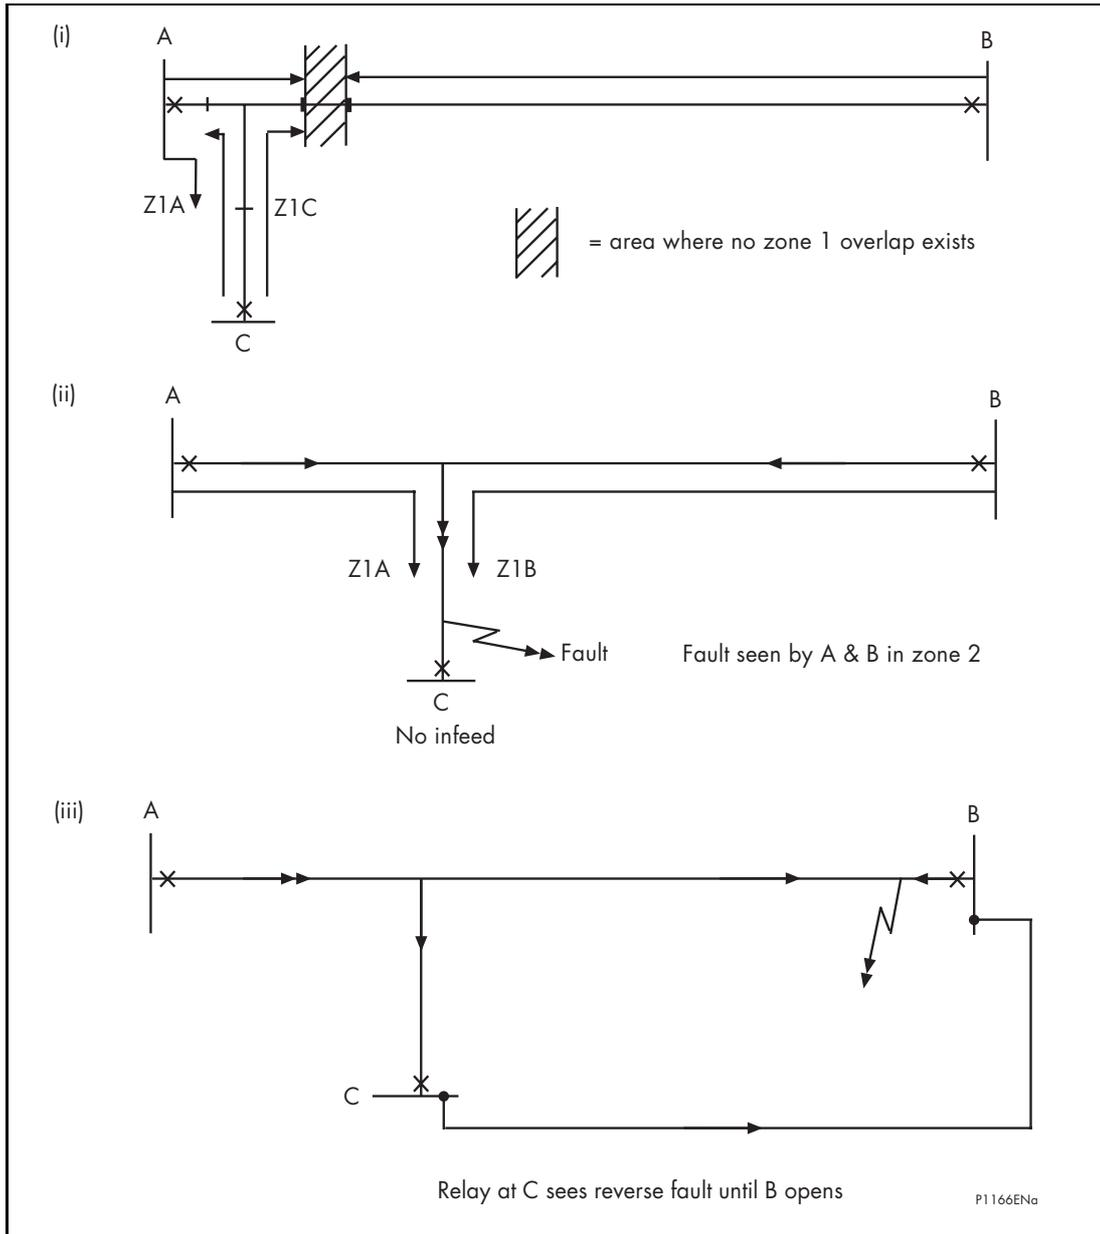

Figure 17: Teed feeder applications
- Figure 17 (i) shows the case where a short tee is connected close to another terminal. In this case, zone 1 elements set to 80% of the shortest relative feeder length do not overlap. This leaves a section not covered by any zone 1 element. Any fault in this section would result in zone 2 time delayed tripping.
- Figure 17 (ii) shows an example where terminal 'C' has no infeed. Faults close to this terminal will not operate the relay at 'C' and hence the fault will be cleared by the zone 2 time-delayed elements of the relays at 'A' and 'B'.
Figure 17 (iii) illustrates a further difficulty for a PUR scheme. In this example current is outfed from terminal 'C' for an internal fault. The relay at 'C' will therefore see the fault as reverse and not operate until the breaker at 'B' has opened; i.e. sequential tripping will occur.
The major disadvantage of blocking schemes is highlighted in Figure 17 (iii) where fault current is outfed from a terminal for an internal fault condition. Relay 'C' sees a reverse fault condition. This results in a blocking signal being sent to the two remote line ends, preventing tripping until the normal zone 2 time delay has expired.